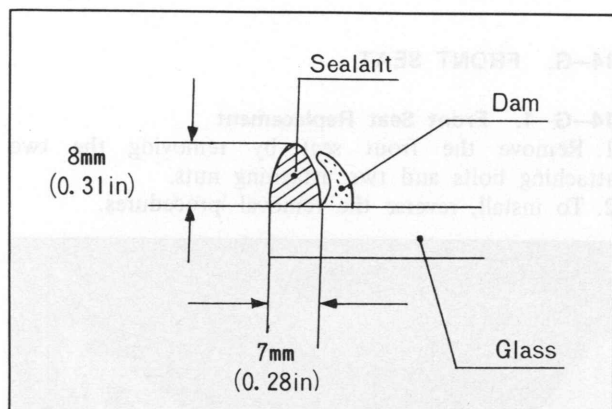

Fig. 14-27 Detail B of Fig. 14-26
8. Firmly press the glass against the sealant with hand pressure. Then, inspect the appearance of the sealant through the glass. A dull spot indicates an area where the sealant does not contact glass surface. Additional hand pressure will seal most areas. When installing the glass, 5.8 mm (0.23 in) clearance should exist between the body and the glass. Check the clearance at the four positions shown in Fig. 14-27.